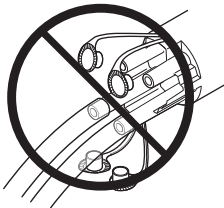

Figure 5 Close All Unused Ports
4. Close all the unused manifold ports using their corresponding caps (Figure 5).